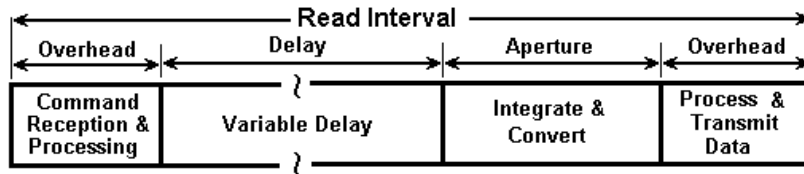

Figure 4-11. Anatomy of a measurement
The Read Interval parameter is the length of time the DMM makes a measurement, including the transfer of the measurement results. Both the Aperture and Read Interval can be set within their specified limits. Setting them allows control over measurement timing. Figure 4-11 depicts the various timing elements associated with each DMM reading cycle. The actual measurement rate is the reciprocal of the actual Read Interval (RI). The time intervals indicated "Command Reception and Processing" and the "Process & Transmit Data", are overhead times. This means that with the Read Interval set to 0, the DMM sets the Delay to 0, resulting in a minimal Read Interval consisting of the sum of the Aperture and the two overhead times indicated below. Set the Read Interval value using the `DMMSetReadInterval()` functions. Keep in mind that setting it to a value lower than the Minimum Read Interval indicated in the tables below will result in it being the table value.